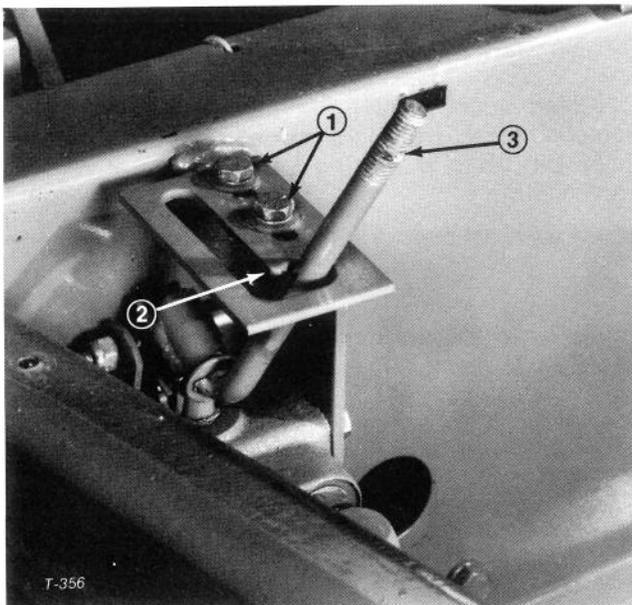

Figure 72
3. Loosen two capscrews on top of the lift lever latch (Fig. 72). Place lever on rounded tip of latch (Fig. 72), and slide latch w/lever forward until stopping resistance is felt. Then tighten capscrews to lock the latch in place. Check for free operation of the lift lever by moving lever from RAISE or TRANSPORT to FLOAT position. Lift lever should just clear rounded position of latch as lever is moved into FLOAT position.